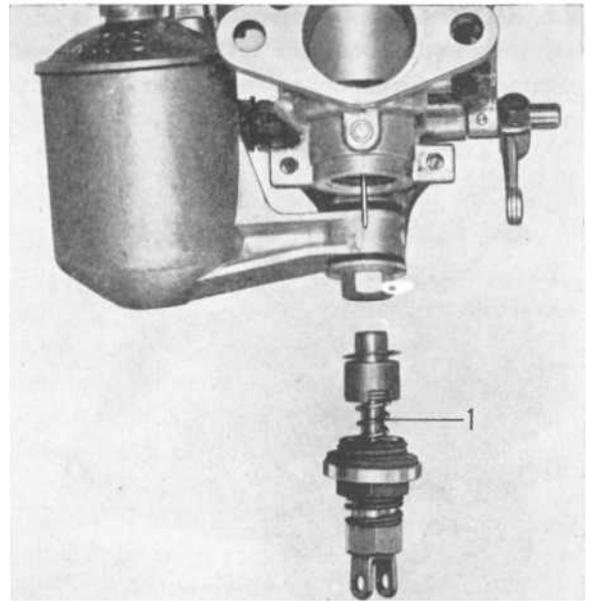

Fig. 15. Jet unit assembled.
3. Push in the jet together with the assembled parts into the carburetor housing, see Fig. 15. Screw on the lock nut loosely. Centralize the jet as shown below and then fit the lever and the other disassembled parts.